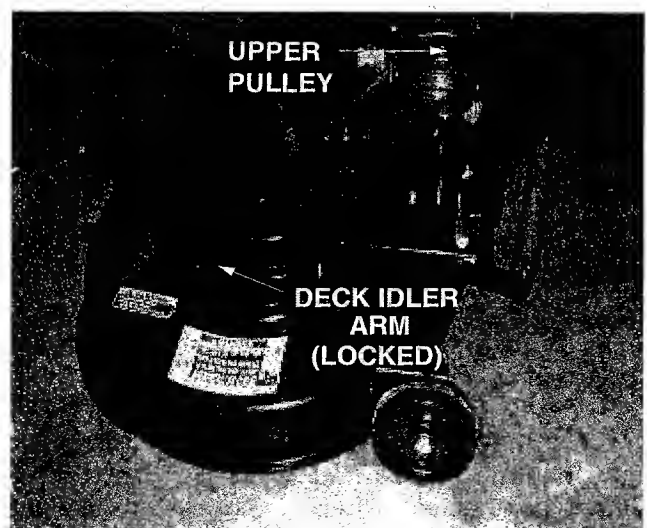

Figure 8
4. Remove the rearward end of the PTO belt from the upper pulley of the deck center double-pulley. Engage the deck idler arm lever back into its stop bracket (See to Figure 8).